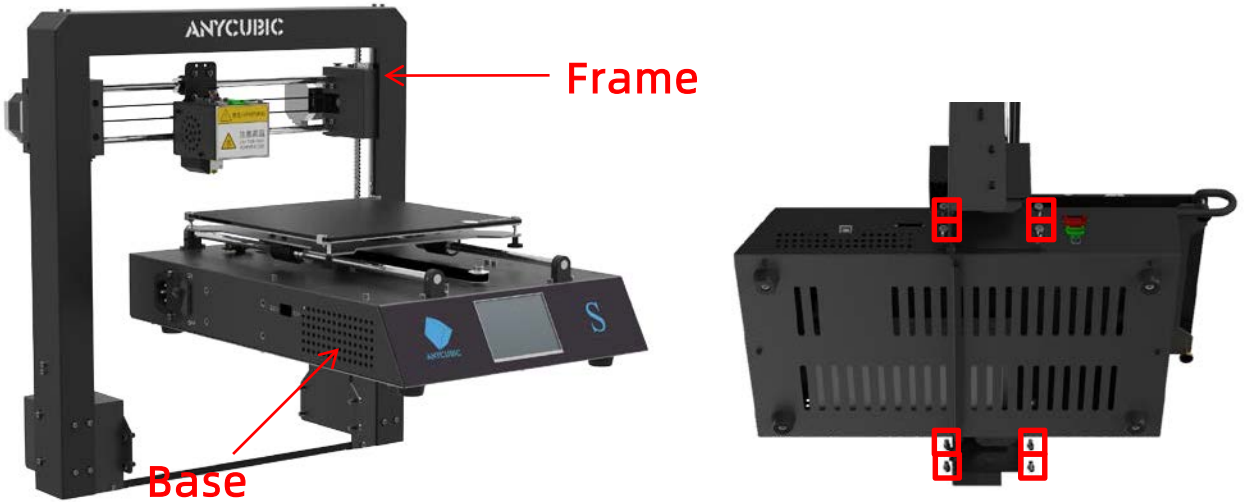

Figure 1
(1) **Fig.1** , carefully lift the base to fit into the frame and fix them by 8 pieces of M5*8mm hex cap screws as shown in the red boxes. Fasten the screws when all the screws are pre-installed.